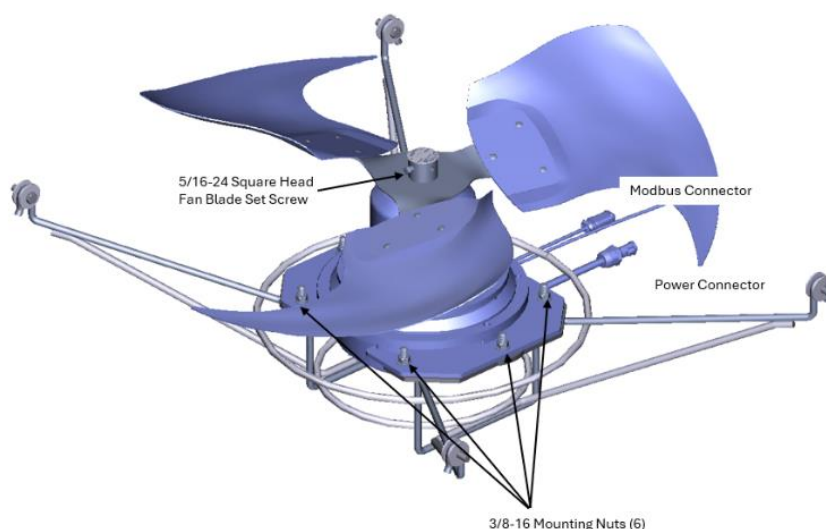

Figure 2:
**Section 1: Replacing EBM Condenser Fan Motor & Fan Blades (Figure 2) to be done at site:** Only impacts units with EBM Condenser Fan motors which were manufactured with S/N 2406xxxxx (week 6 of 2024) or prior. DOES NOT IMPACT UNITS WITH REGAL MOTORS.